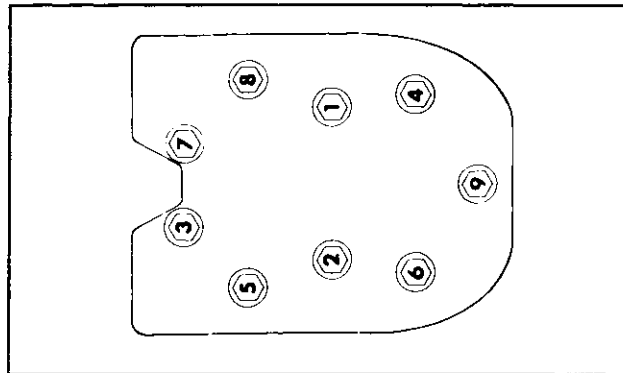

Figure 3-10. Cylinder Head Fastener Tightening Sequence.
- Reinstall cylinder heads using new gaskets. Torque cylinder head fasteners in increments to **15/20 ft. lb.** in the sequence specified in Figure 3-10.